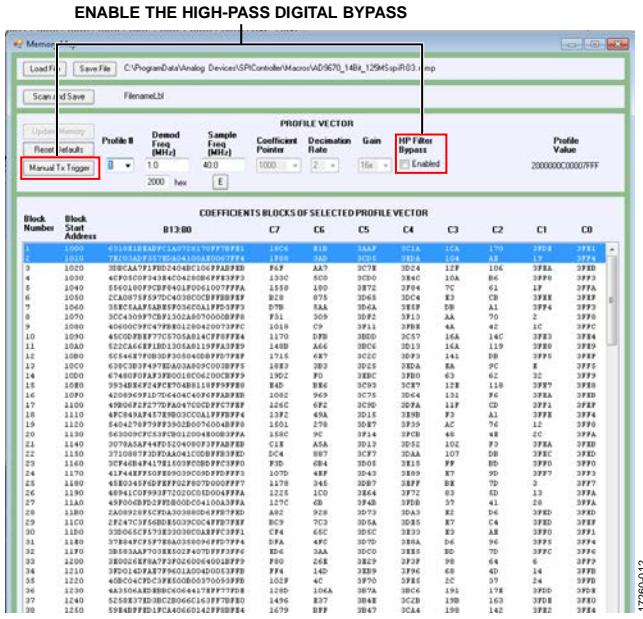

Figure 12. Disabling the Digital High-Pass Filter Bypass in the **Memory Map** Window
15. To disable the digital high-pass filter, select the **HP Filter Bypass** checkbox in the **Memory Map** window (see Figure 12) and then click the **Manual Tx Trigger** button (see Figure 12).